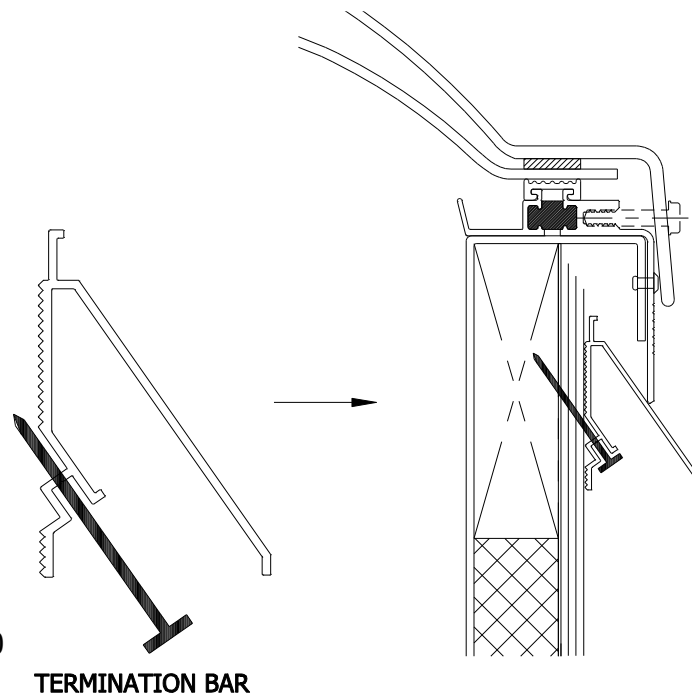

FIGURE 5.0
- If optional roof termination bars supplied by the skylight manufacturer are used follow the manufacturer's directions for fastening the termination bars to the curb (See Figure 5.0).